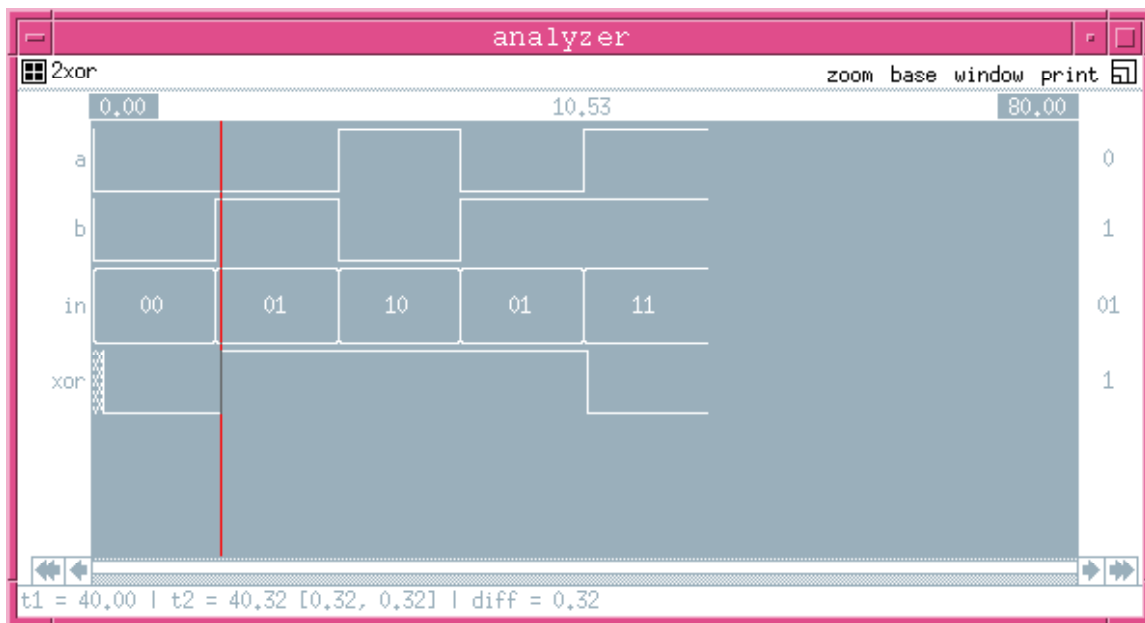

Figure 2: IRSIM Analyzer Window
Because of the ``ana'` command in the above script, *IRSIM* also opens up the *analyzer* window shown in Fig. 2.
- You can also determine the period between two events: Select "delta T" from "window" menu. Click on the first event and then click on the second event. The period between these events is displayed as "diff" at the bottom of the window as shown in Fig 2 above.